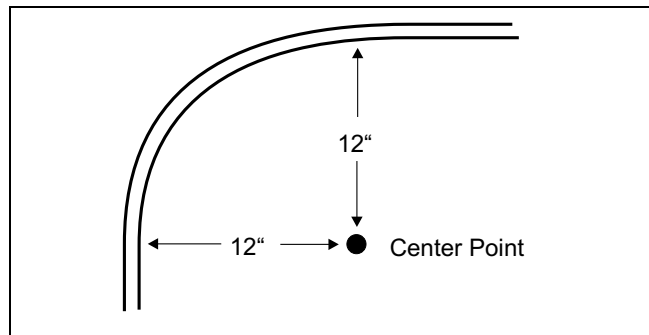

FIGURE 2: Minimum Suction Line Form
- a. No attempt should be made to bend the suction line in a shorter radius than 12". See Figure 2.